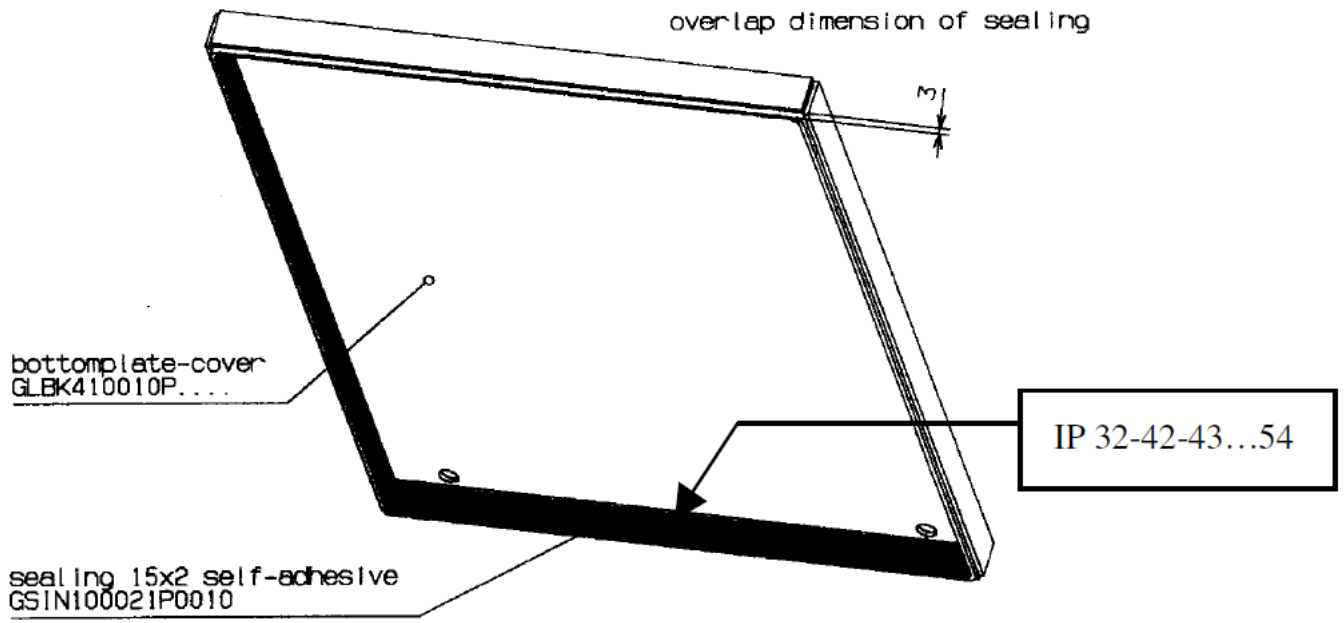

Fig. 22 Gaskets on bottom plate cover
- For degrees of protection IP X2 or IP 5X the bottom plate covers (flanges) have to be sealed, if not already done at the manufacturer's site. To seal the bottom plate covers the self adhesive sealing 15 x 2 mm (GSIN100021P0010) has to be used which has to be applied after cleaning (see below) on the inside bending of the flanges with an overlapping distance of 3 mm to the bending (see fig. 22).